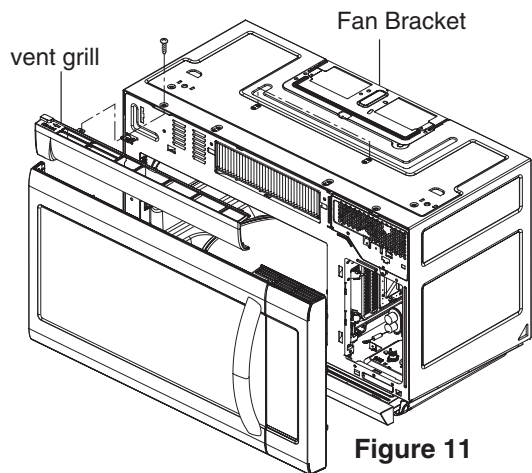

Figure 11
(Figures 11 Through 12)
- (1) Remove the vent grill by loosening the one screws.(Figure 11)
- (2) Remove fan bracket and outer case. See page 7-6.
- (3) Remove the four tap tite screws securing the magnetron to the wave guide.
- (4) Disconnect the lead wire.
- (5) Remove the magnetron VERY CAREFULLY.